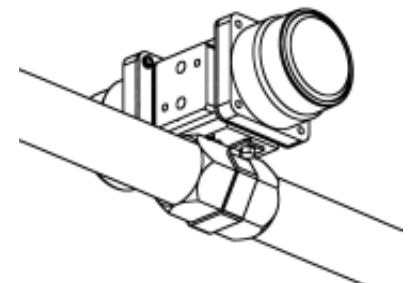

Figure 3
b. Cross mounted- the long axis of the actuator is perpendicular to the piping. The bracket should be mounted parallel to the actuator body. (See Figure 3)